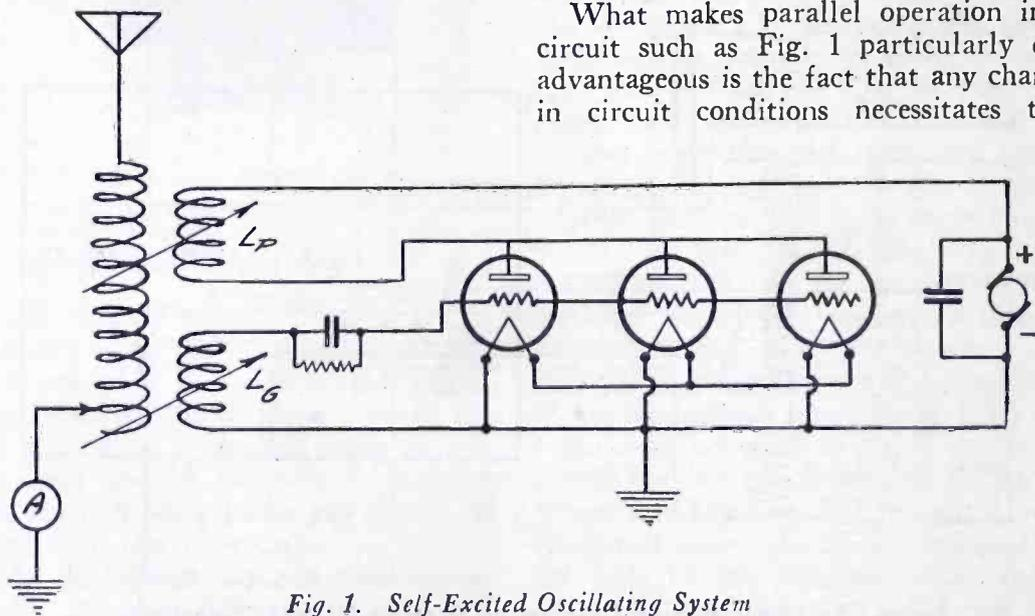

Fig. 1. Self-Excited Oscillating System
In working transmitting tubes in parallel there are two alternative methods of operation: (1) operating the tubes in parallel as self-excited oscillators and (2) operating the tubes in parallel as amplifiers, the grids of these amplifiers being excited by voltage derived from a master oscillator. These two methods are illustrated in Figs. 1 and 2 respectively. In the first instance, the tubes feed their output directly to the antenna. In the second case one master oscillator furnishes enough oscillatory energy to feed the grids of the bank of amplifier tubes which feed the amplified output into the antenna. These two methods are different in their operation and the advantage rests almost entirely with the master-oscillator-amplifier system. The reasons for this will become apparent in the course of the discussion.
for best and stable operation may be different for the different tubes. In fact the values of L_p and L_s which are necessary to make one tube oscillate may not make the other tubes oscillate, the result being very unstable operation at low efficiency and output, or no operation at all. With very non-uniform tubes it may be impossible to get the bank of tubes to oscillate at all. Uniformity of tube structure when tubes are used in parallel as in Fig. 1 is strictly essential for stable operation.
What makes parallel operation in a circuit such as Fig. 1 particularly disadvantageous is the fact that any change in circuit conditions necessitates two
important and sensitive readjustments. Suppose the circuit has been definitely adjusted for best output. If now there should occur a change, say in antenna capacity, which is not an unlikely occurrence in an airplane, due to swaying of the antenna and lead-in, it would be necessary to readjust both the feedback from antenna to grid and the antenna-plate coupling. If this were not done instability or even cessation of oscillations might ensue. This readjustment would be doubly difficult in the event the tubes were not uniform for the reasons given in the previous paragraph. A further disadvantage in this system of directly exciting the antenna from a bank of self-excited oscillator tubes is that the frequency of the radiated waves is subject to variations. Since in the circuit of Fig. 1 the transmitted frequency is determined entirely by the antenna constants and is not controlled by the tube circuits, any change in antenna constants, such as capacity, will result in a corresponding change in the frequency of oscillations. It is at once evident that this would be a great disadvantage in beat reception of C. W. signals.
In general, tubes as manufactured today are sufficiently uniform to permit of parallel operation. Assuming this uniformity, it will be found that as the number of tubes worked in parallel increases adjustments have to be changed to accommodate this increase. When one tube is connected to a circuit as in Fig. 1, or any other oscillating circuit, there are certain definite adjustments which will give maximum output at any particular wavelength. These adjustments are dependent upon the internal plate resistance of the valve and the load resistance, and are such as to make the plate circuit resistance equal to the antenna resistance when both are transferred into the same circuit. Mathematical analysis shows that for the best adjustment the plate inductance or plate tap is directly proportional to the internal plate resistance of the tube. When two or more like tubes are operated in parallel their internal plate resistances are in parallel, hence the total
One of the chief advantages of the master-oscillator-amplifier system over the self-excited system arises in the case of telephony. In the case of the circuit of Fig. 1, if telephony were desired, modulation could be efficiently accomplished in only one way, namely by the use of the Heising system of plate injection, as in Fig. 3. Now it is a well known fact that in this system it is necessary to use as modulator the same power tube as in the oscillator. Consequently the self-excited system of Fig. 1 would require an equal number of